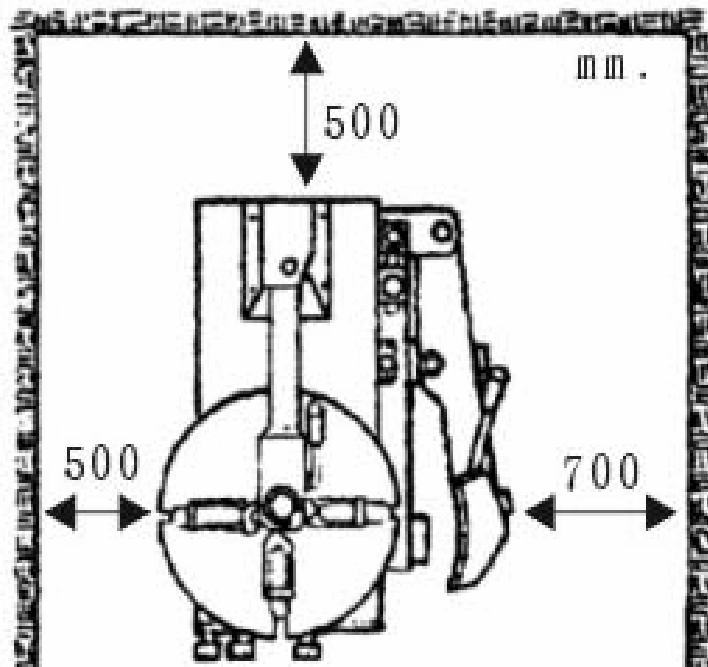

Fig.4
### Installation of Semi Automatic Machine ( Fig 4)
- The place of installation must also provide at least the space shown in figure 4, so as to allow all parts of the machine to be operated correctly and without any restriction.